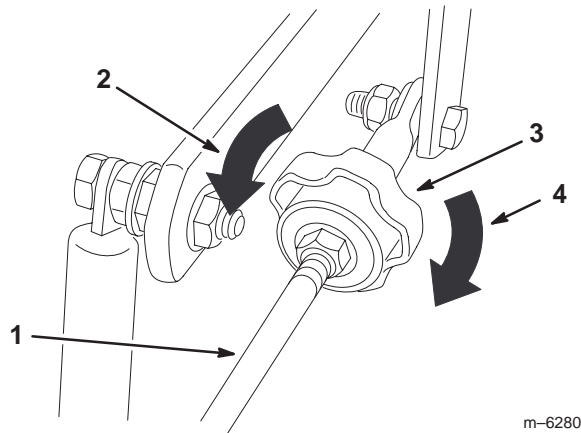

Figure 46
- To make the machine move to the right, turn the knob toward the right side of the machine; refer to Figure 46.
- To make the machine move to the left, turn the knob toward the left side of the machine; refer to Figure 46.